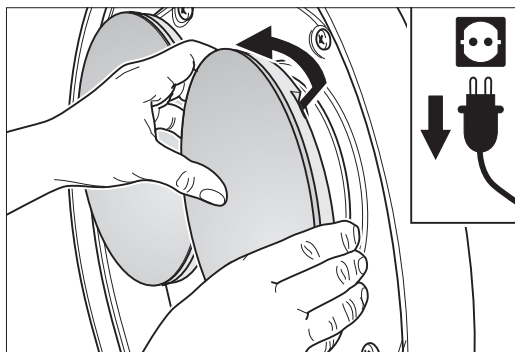

Fig. 35 Grasp the gear edges with your fingers and pull it out of the rubber jigs.
- 5 Remove sanding or brush plates by grasping the edges with your fingers and pulling them out of the rubber jigs of their bearings (Fig. 35).